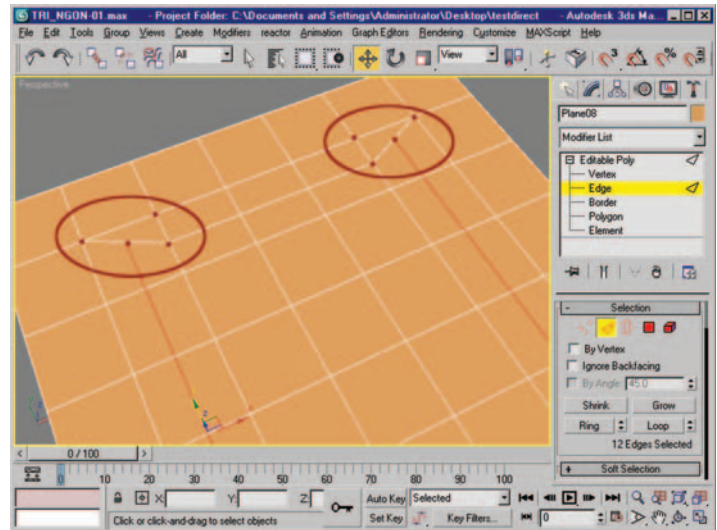

Figure 6.55 Four-sided Tris; they are now Quads.
2. Use Connect on the ring selection(s) and once again you are left with a four-sided Tri (Figure 6.55).